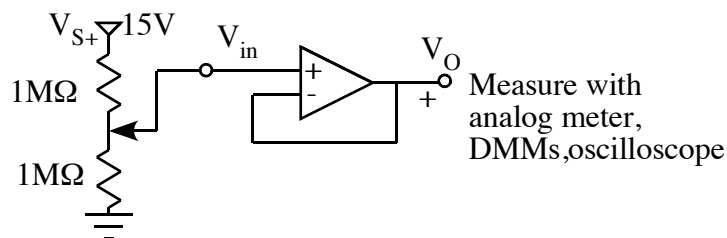

Figure 9.6 Voltage Follower
2. Construct the Voltage follower circuit shown in Figure 9.6. Now, feed the Voltage from the Voltage divider to the Voltage follower input and measure the Voltage follower output. Compare this measurement to those without the Voltage follower, in terms of accuracy, and explain your results.